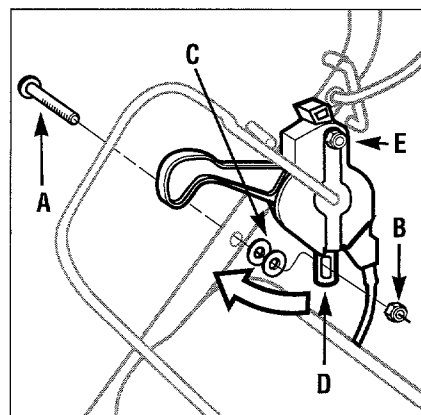

Figure 2-5: Attach Blade Brake Control Lever.
A. Remove the screw (A, Figure 2-5), nut (B) and two washers (C) from the right handlebar.
C. Rotate the lever mounting bracket forward (see arrow in figure) until the slot (D) is aligned with the washers.
E. Tighten the screw and nut (E) at the upper part of the lever.